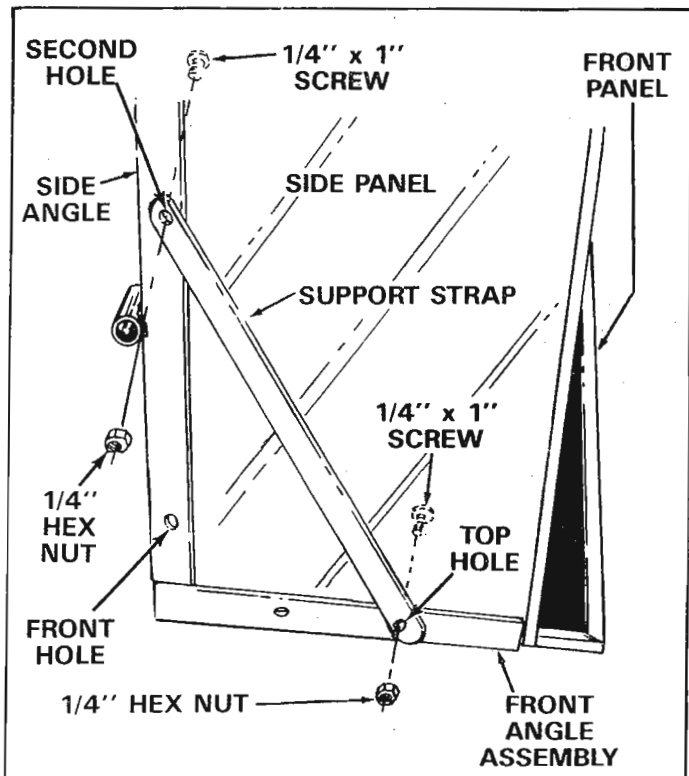

FIGURE 6
9. Place one side panel in position, against side angle and down on top of front panel. Start one 1/4" x 1" truss head screw through the **second hole** in side panel, support strap and side angle. Secure with hex nut. See figure 6. **Make only finger tight as this time.**
10. Assemble one 1/4" x 1" truss head screw through top hole in side panel, support strap and front angle assembly, then remove hex nut from screw assembled in step 9, next place support strap over these two screws and secure with hex nuts. See figure 6. **Make only finger tight at this time.**
12. Assemble one 1/4" x 3/4" truss head screw through bottom hole in side panel and front angle assembly and another 1/4" x 3/4" truss head screw through front hole in side panel and side angle. Secure with flat washers and hex nuts. See figures 6 and 7. **Make only finger tight at this time.**